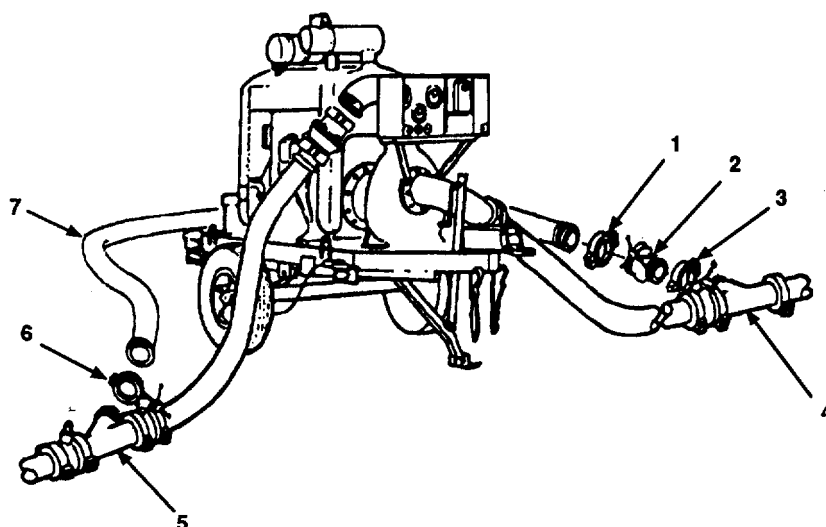

Figure 2-20. Boost Pumping Station and Bypass Components Assembly.
- l. Install 6 inch butterfly valve (Figure 2-20, 2) on end of lateral grooved pipe fitting (4) (on suction line of boost pumping station) with grooved-end pipe quick disconnect coupling clamp (3) (para 2.3.3.2).
- m. Install 6 inch x 75 foot discharge hose assembly (7) on end of 6 inch butterfly valve (2) with grooved-end pipe quick disconnect coupling clamp (1) (para 2.3.3.2).
- n. Install 6 inch x 75 foot discharge hose assembly (7) on end of lateral grooved pipe fitting (5) (on discharge line of boost pumping station) with grooved-end pipe quick disconnect coupling clamp (6) (para 2.3.3.2).